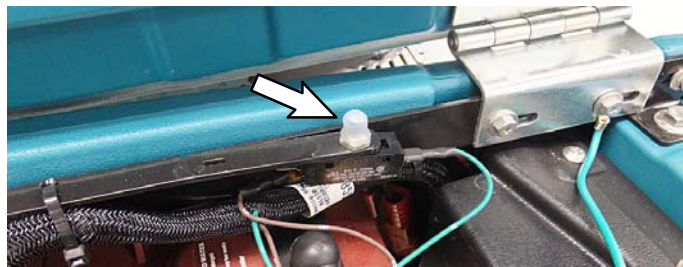

FIG. 35
4. Turn key on and pull the start bail to confirm the charger interlock disables the propel. The machine's safety shut-off switch **MUST** be compressed (recovery tank down) during test to confirm (FIG. 35).